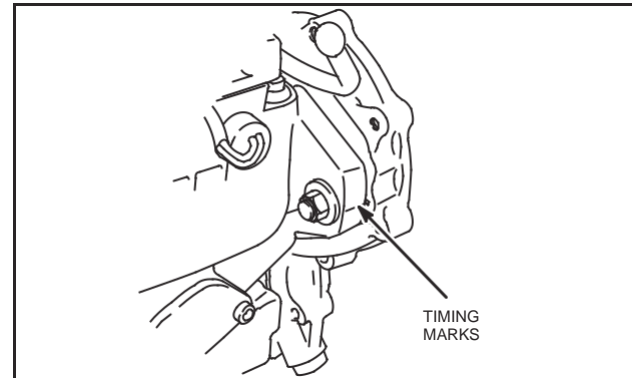

Fig. 14 – Install Injector Pump
5. Assemble injector pump to gear case with new O-ring and install nuts and support bracket screw finger tight, Fig. 14.